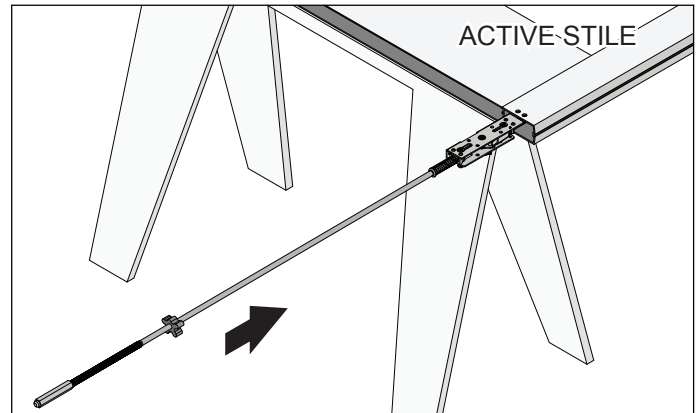

FIG. 7
1. Insert the panic device rod and case assembly into active stile (**Fig. 7**).